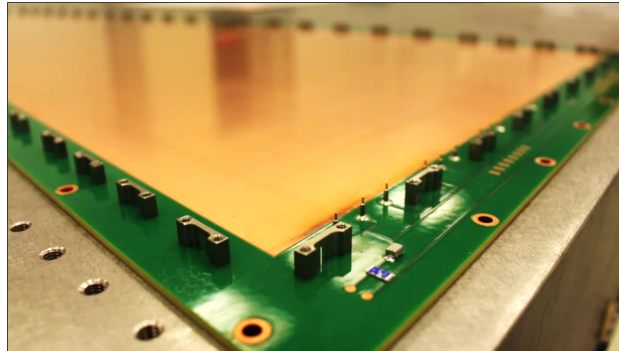

Figure 27: Final state of the drift board.
Step 2: Proceed like this all along the large base of the board (Fig. 27). The drift board is now ready for the assembly.